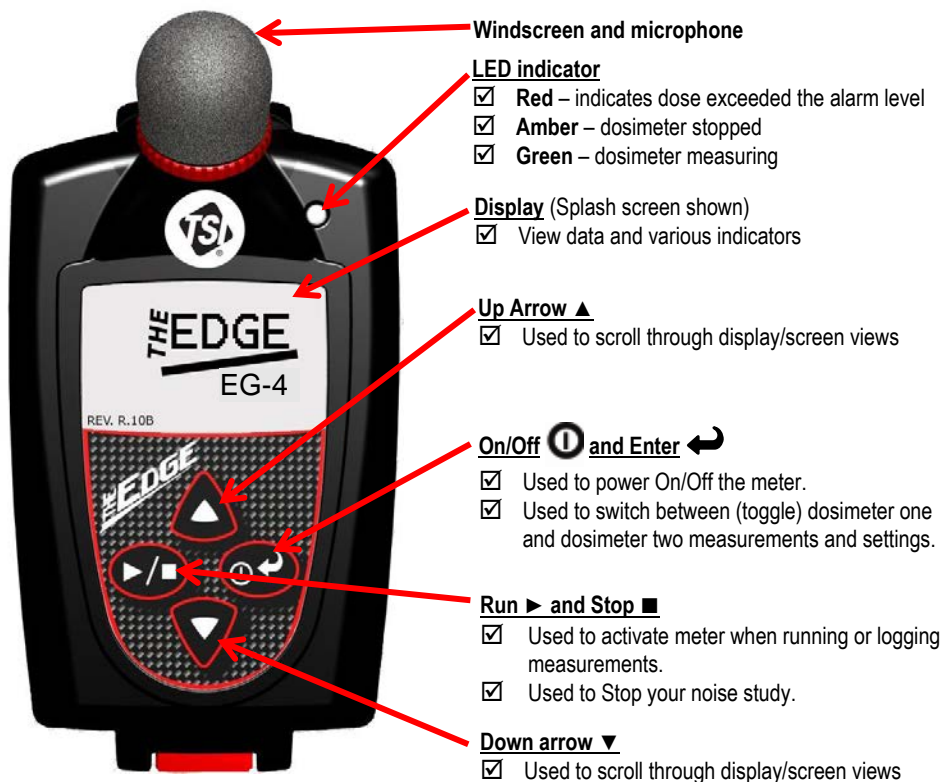

Figure 2-3: Edge Keypad
- ☑ The Edge **splash screen** (see Figure 2-3 for an example) will appear indicating the model (i.e. “eg4”) and firmware version. The screen will be in the **measurement view**.